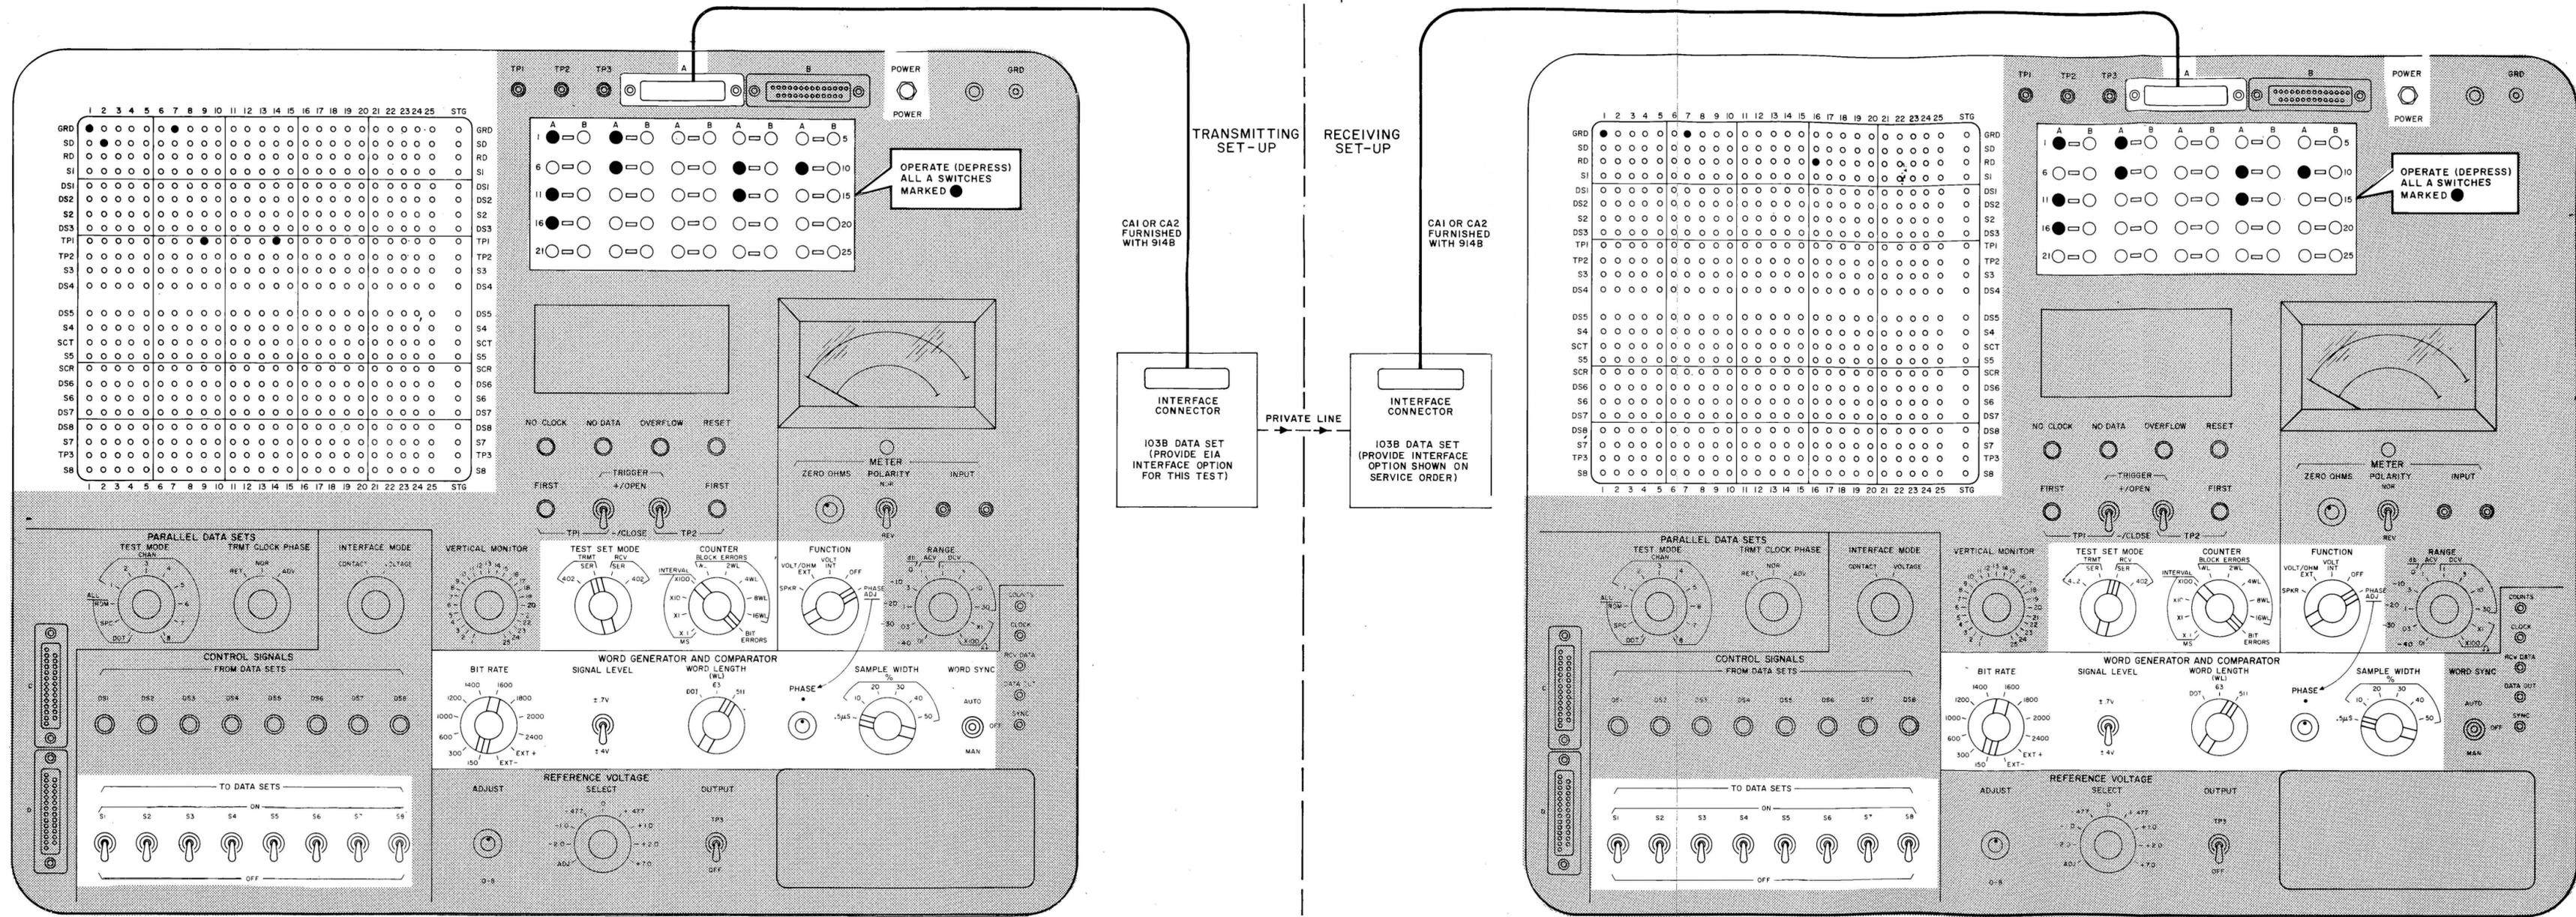

Fig. 7—End-to-End Test Using 914B DTS
3.16 This test measures the error rate of the data system. In this test the transmitting data set is driven by a 914B DTS. At the distant end, the received data is fed into another 914B DTS which counts the errors in the received data. The receiving station should be prepared to record errors on a minute-by-minute basis. Figure 7 shows a block diagram and the switch settings of the test setup.
Before making any test connections, ensure that all programming pins are removed from the 914B DTS matrix. Insert only those pins shown in the test connection diagram (Fig. 7).
1	<p>At the transmit terminal, set 914B DTS switches and program matrix as shown in Fig. 7.</p> <p>Note: The EIA input-output option must be provided in the Data Set 103B at the transmit terminal because the 914B DTS provides only an EIA output on the SD lead.</p>
2	<p>At the receive terminal, set 914B DTS switches and program matrix as shown in Fig. 7.</p> <p>Note: Depending upon the interface option used, additional red shorting pin(s) must be inserted in the 914B DTS matrix as follows:</p> <p style="padding-left: 40px;">EIA option—TP1/14, TP1/9</p> <p style="padding-left: 40px;">unipolar option—TP1/14, TP1/10</p> <p style="padding-left: 40px;">current option—GND/14</p>